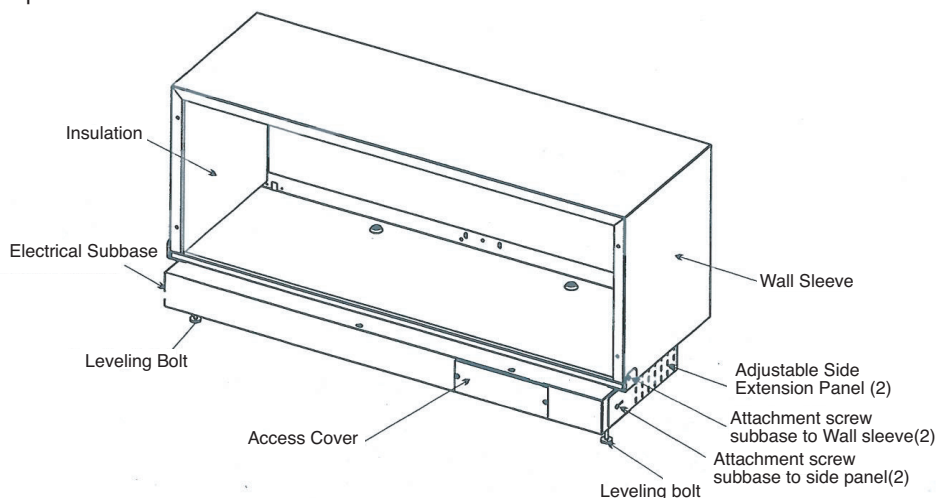

Figure 4
7. Attach subbase to wall sleeve. Subbase has side tabs for mounting the subbase to sleeve. Be sure hole on the side tab is lined up with the pre drilled hole on side of sleeve. Once holes are aligned, attach subbase to sleeve with one screw on each side. See Figure 4.